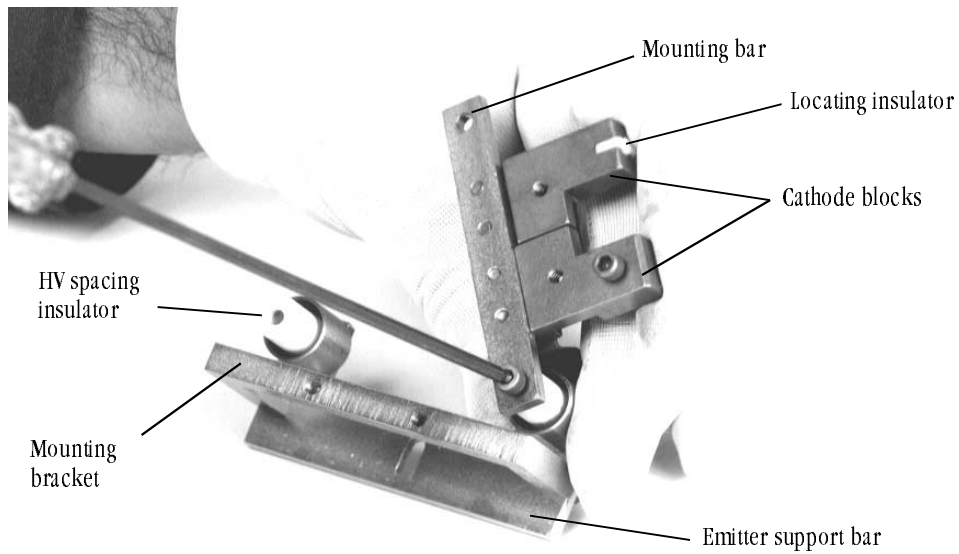

Figure 4-6. Removing the cathode blocks and mounting bar from the HV spacing insulators
- 5 Remove the screws that secure the mounting bar to the HV spacing insulators (see Figure 4-6).
21	Reattach the mounting bar to the other ends of the HV spacing insulators (see Figure 4-6).